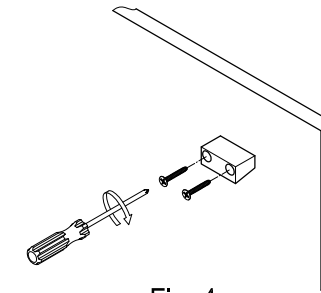

Fig. 4
- Step 6. Secure the mounting brackets (with the rib facing down) to the wall using the provided screws (fig 4).
- Step 5. Hammer in the drywall anchors until flush with the wall (fig 4).